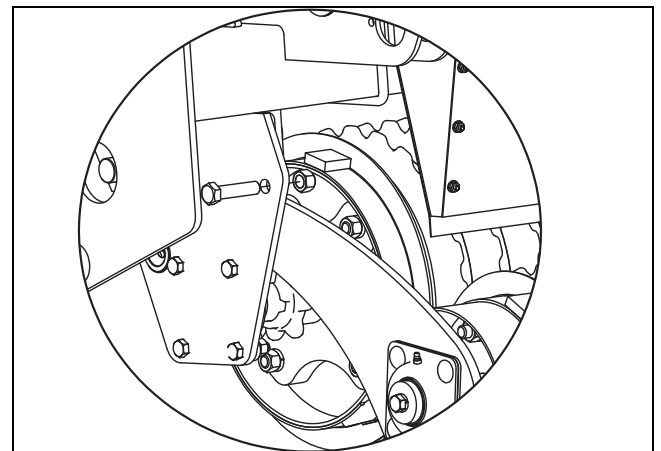

Figure 2-16 Shipping Bolts
4. Remove the 5/8" shipping bolts which lock rear roller arms down. One bolt is used on each side of the implement. See Figure 2-16.